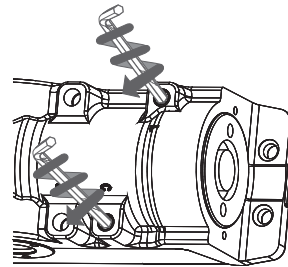

Figure 1
- Four (4) on door for closer
- Three (3) on frame face for track assembly.
3. Close the "C" and "L" valves on the closer body. (Figure 1)